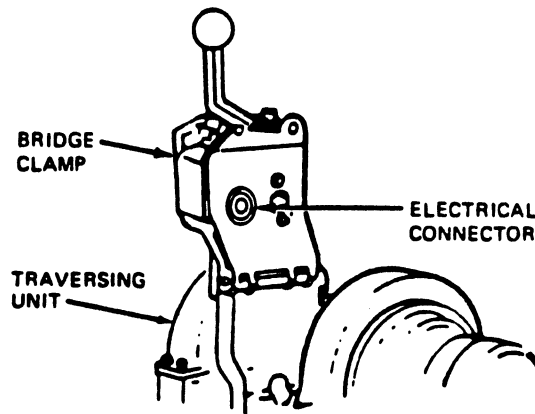

Fig 3-3. Traversing unit--continued.
Step 5. Check the electrical connector on the traversing unit (fig 3-3).